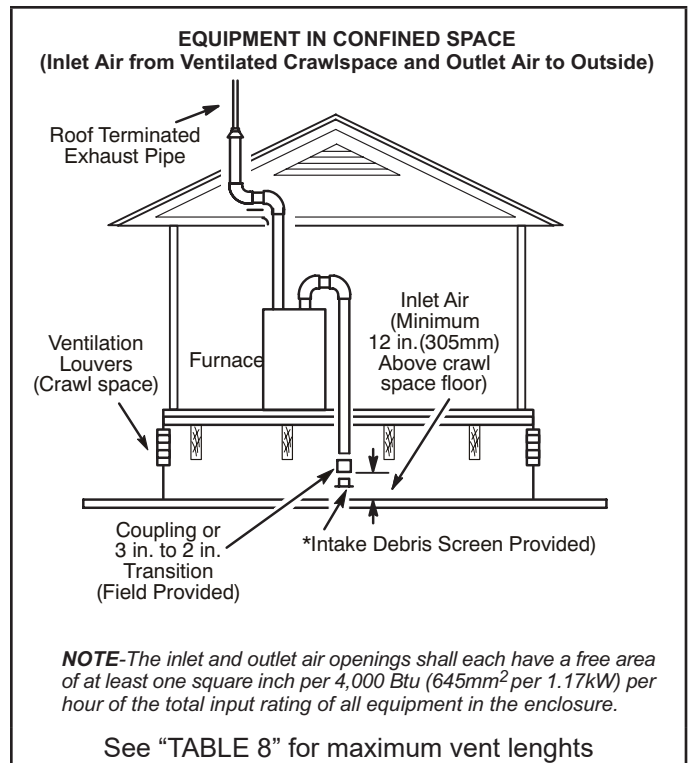

FIGURE 31
- 2 - If intake air is drawn from a ventilated crawlspace ("FIGURE 31") or ventilated attic ("FIGURE 32") the exhaust vent length must not exceed those listed in table 9. If 3" diameter pipe is used, reduce to 2" diameter pipe to accommodate the debris screen.